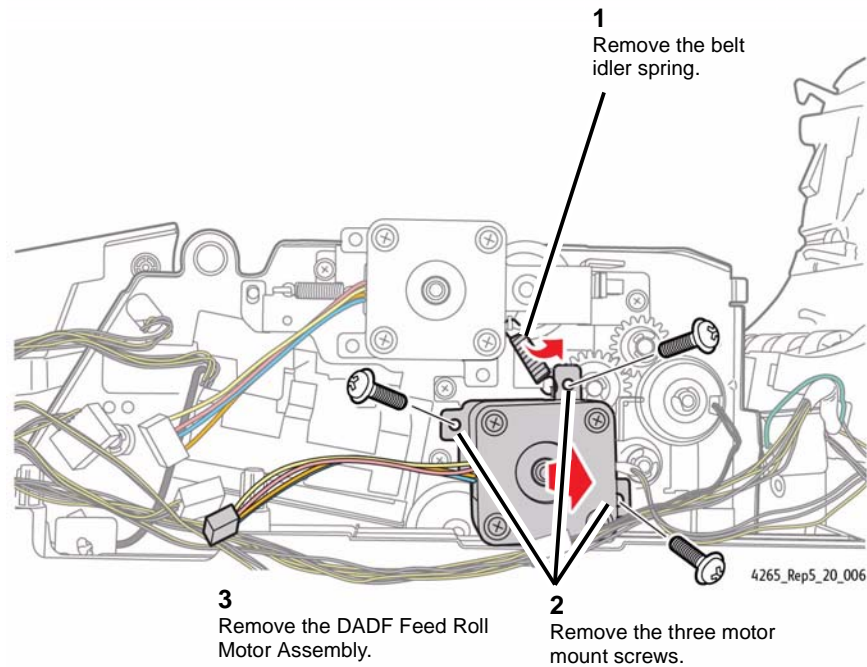

Figure 6 Removing the DADF Feed Roll Motor Assembly
9. Remove the DADF Feed Roll Motor Assembly (Figure 6).